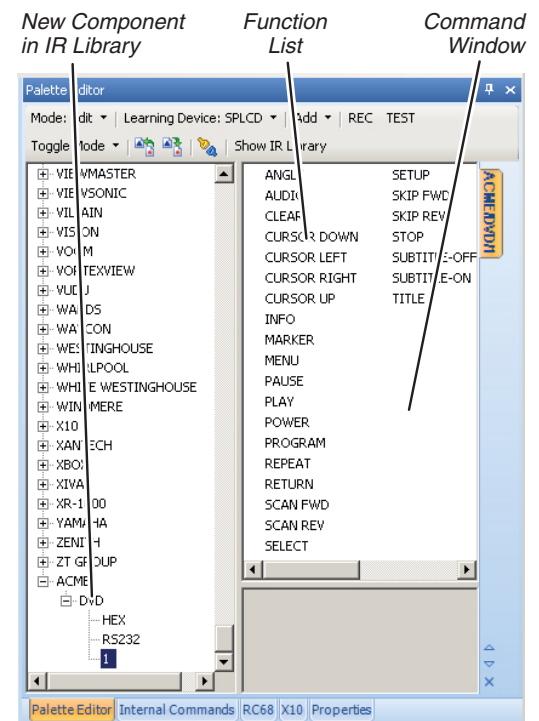

Figure 56: New component with un-learned commands
7. A function list for the selected component will appear (see *Figure 56*). Review the function list and compare it to the source remote. If a particular function is not displayed or not named appropriately, you can add it: